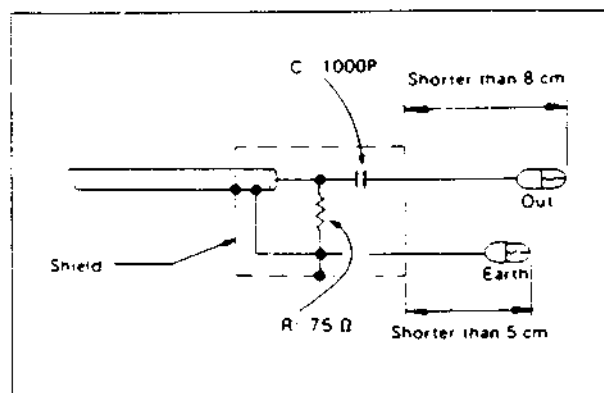

Fig. 2-5-10 Sweeper probe
- 1) Use a sweeper probe as shown in Fig.2-5-10 and connect the sweep generator output to pin 1 of SAW1.